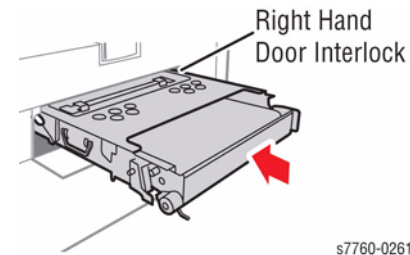

Figure 6 Reinserting Accumulator Belt Assembly
6. Reinsert the Accumulator Belt Assembly into the Printer without the Stand Plate as shown in Figure 6. The area that was covered by the Stand Plate will be the area in which you see the images on the Accumulator Belt.